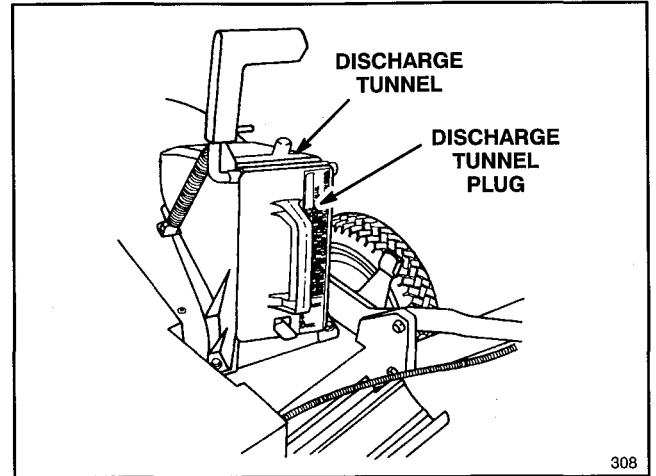

Figure 35
2. Rear Bagging Kit, Model No. 59174—Install discharge tunnel and rear mounting grass bag to convert the Recycler® II Super Pro® mower to a rear bagging mower (Fig. 35). Includes discharge tunnel plug.